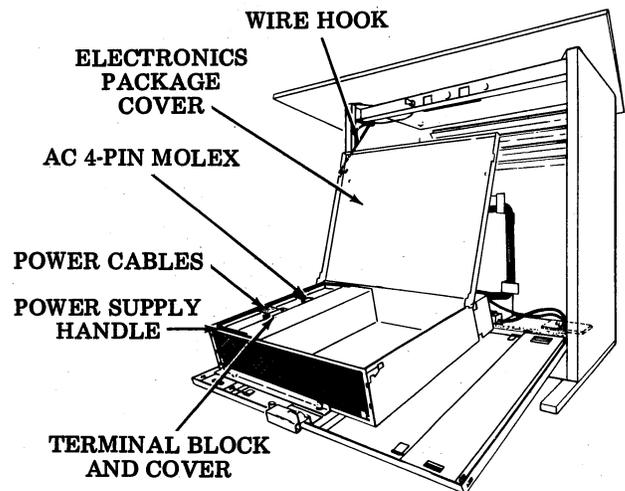

Fig. 19—Pedestal Mounted Electronics Package
4.48 Open the cover of the electronics package by loosening the two captive screws located on the top of the cover near each side, then lift the cover and secure it in the open position by means of the wire hook that is located inside the pedestal on the left side of the door opening (Fig. 19).
4.49 Remove the power supply by the following (Fig. 19):